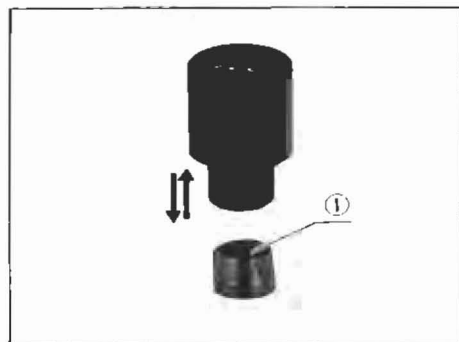

Fig. 5
- 1) Remove the retaining ring (1) from the lower end of the eyepiece and place the micrometer on the retaining ring with the reticle-engraved surface, facing downward. (Fig. 5)